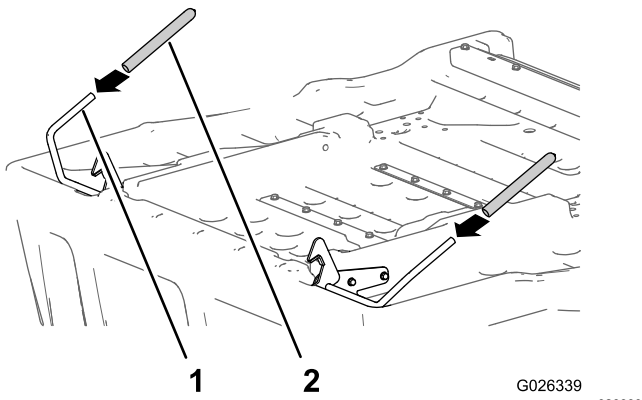

Figure 9
4. Slip the hand grips onto each end of the handle bar of the latch assembly (Figure 9).